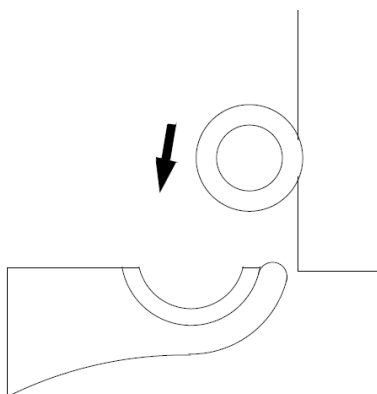

Figure 7 | Lift radiator onto wall
6. The radiator is now ready to mount. Lift the radiator onto the Brackets as in **Figure 7**.